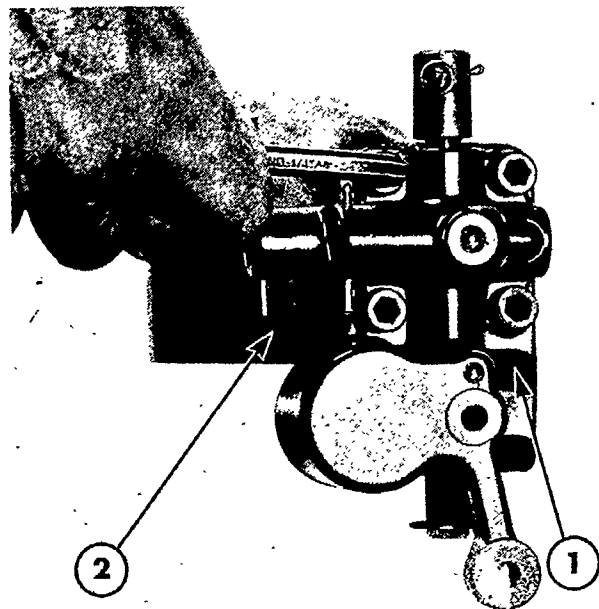

Figure 11
2. Remove the socket-head screws and separate the valve body from the support, Figure 11.